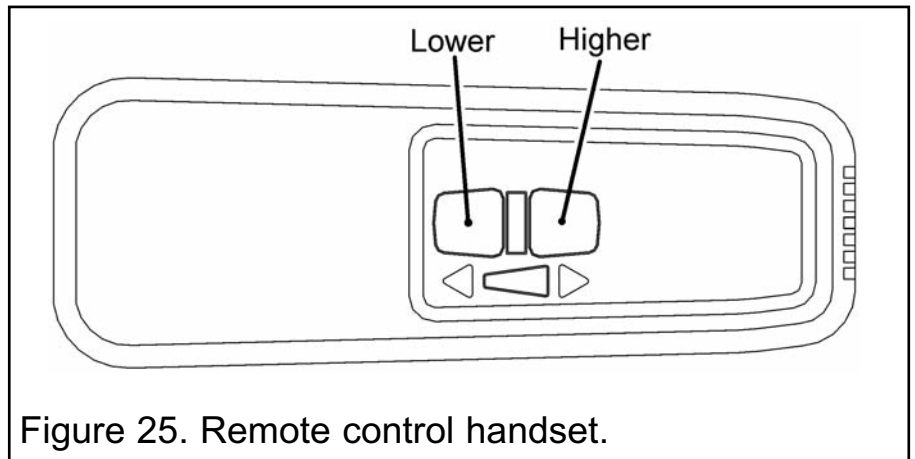

Figure 25. Remote control handset.
1. Keep the pilot burner at the "main burner on" position. Check the full range of main burner heat settings using the remote control handset. In order to vary the flame effect between High and Low positions, press, and keep depressed, either the High button, or the Low button as appropriate (See figure 25).